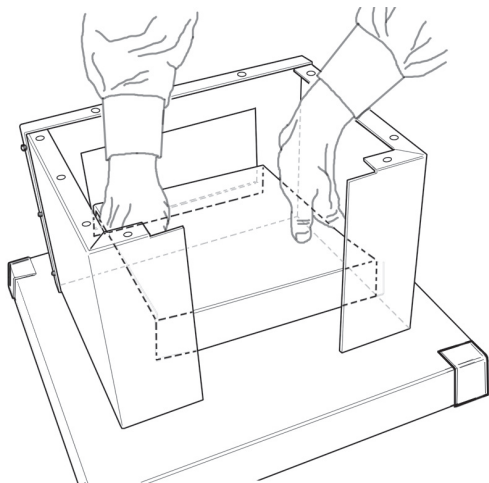

Figure 5 – Insert Ash Drawer Support.
4. Attach the pedestal front frame to the sides. The pedestal front should go over (not inside of) the side panels. Use three (3) machine screws, lock-washers & hex nuts (provided in the hardware pack) on each side to attach both pedestal sides (#31) to the pedestal front (#32).
5. Position ash drawer support into assembled pedestal (Figure 5) and secure from rear with two (2) machine screws, lock washers and hex nuts. Tighten all pedestal hardware.